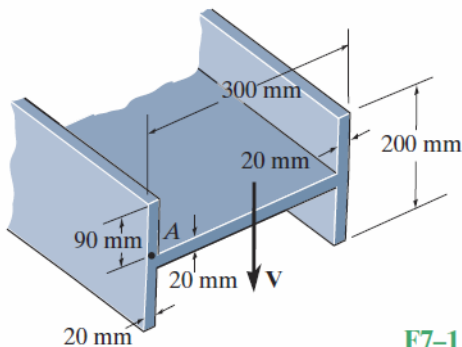

Fig. 2
2. If the beam is subjected to a shear force of  $V = 100 \text{ kN}$ , determine the shear stress developed at point A. Represent the state of stress at A on a volume element. Fig. 2.